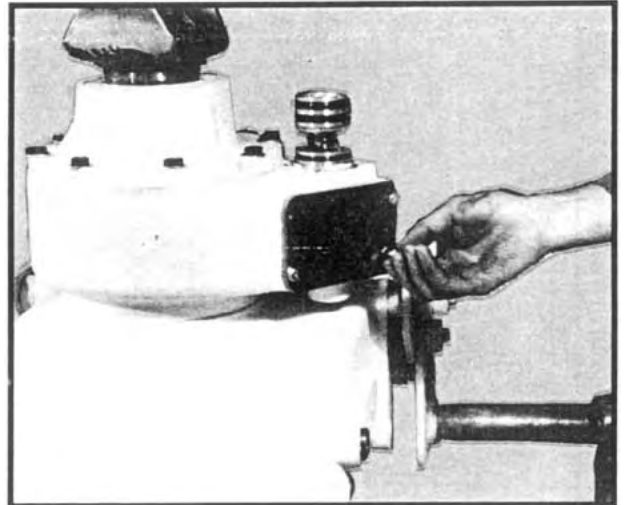

Fig 8
4. Remove the (4) cap screws securing the declutch housing cover plate. See Figure 8. Remove the cover plate and discard the gasket.